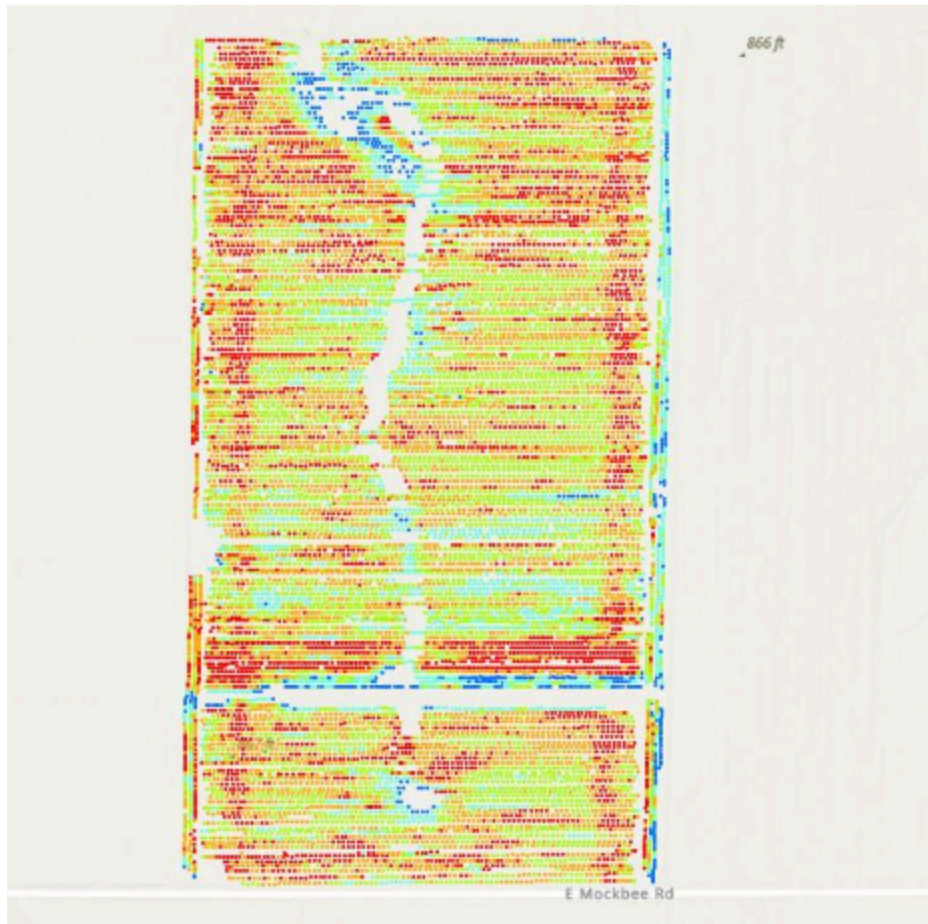

Figure 9. Here is an example of what a map might look like in ArcGIS after modifying the symbology and zooming to the field extent.
- 31.1 To view variation in the map more clearly, we recommend modifying the symbology. We used graduated colors, the natural breaks (Jenks) classification method, and 10 classes (Figure 9). For the color scheme, the same colors used in Yield Editor were selected to provide the same view in ArcGIS. In addition, all symbols were formatted to decrease their size and remove their black outline.